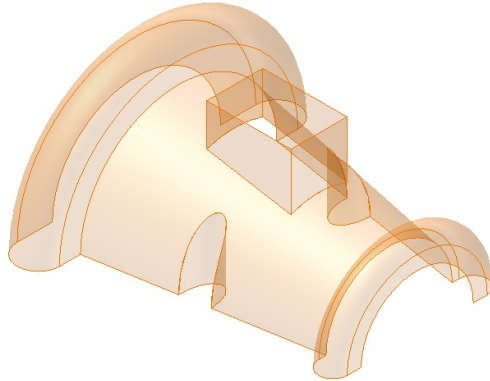

Figure 14-63 Model after creating the lofted surface
- h. Create a 3D sketch on the deleted face and then share the sketch that was used in splitting the base surface. Create a lofted surface using the shared sketch and the 3D sketch, as shown in Figure 14-63.
12. Turn off the visibility of the sketches. The model after creating the lofted surface is shown in Figure 14-63.